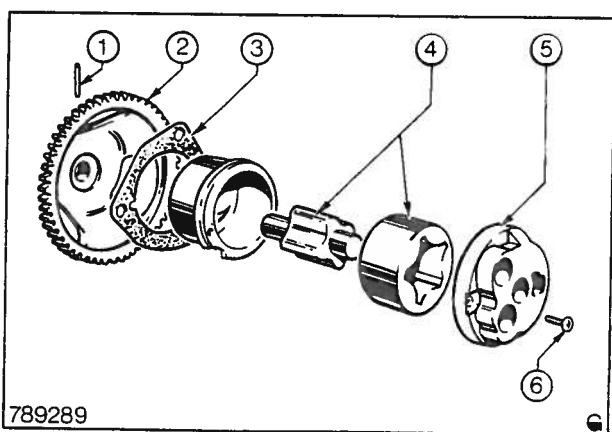

Fig. 2 4 cylinder Oil Pump
The bi-rotor type pump consists of two sets of rotors, driven on the same shaft. Oil from the sump is drawn into the pump through a gauze screen and inlet pipe. The inner rotor is pressed onto a shaft. On pumps fitted to four cylinder engines, it is positively retained to the gear housing by a pin (Fig. 2). On six cylinder engines,
The inner rotor has four lobes which mesh internally with the five segments in the outer rotor, Figs. 2 & 3. Rotation of the inner rotor thus causes the outer rotor to revolve also, but at $\frac{4}{5}$ of the speed, in the ratio of the number of lobes to segments.
1. Unscrew the cross-headed bolt securing the end cover to the pump body, refer to Fig. 2 and remove the cover.